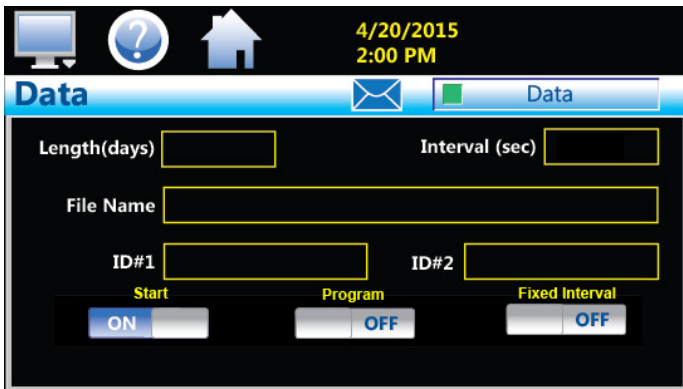

Fig. 56: Data Screen
2. At the DATA screen (Fig. 56), the green box inside the "DATA" button is dark green (OFF). The OFF position allows you to make entries on the DATA screen.
2. Select the INTERVAL Box (Fig. 56). A pop-up keypad appears.